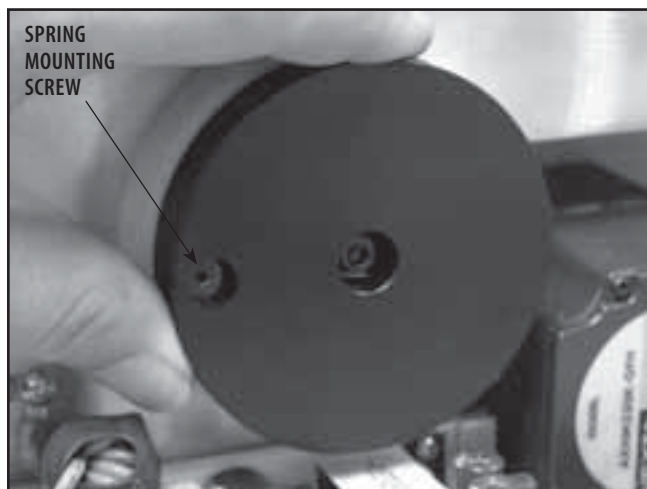

FIGURE 6.42
5. Rotate the Cord Tension Spring Housing until the hole in the face aligns with the Spring Mounting Screw. Remove screw with the 3/32 in Allen Wrench. See Figure 6.42.